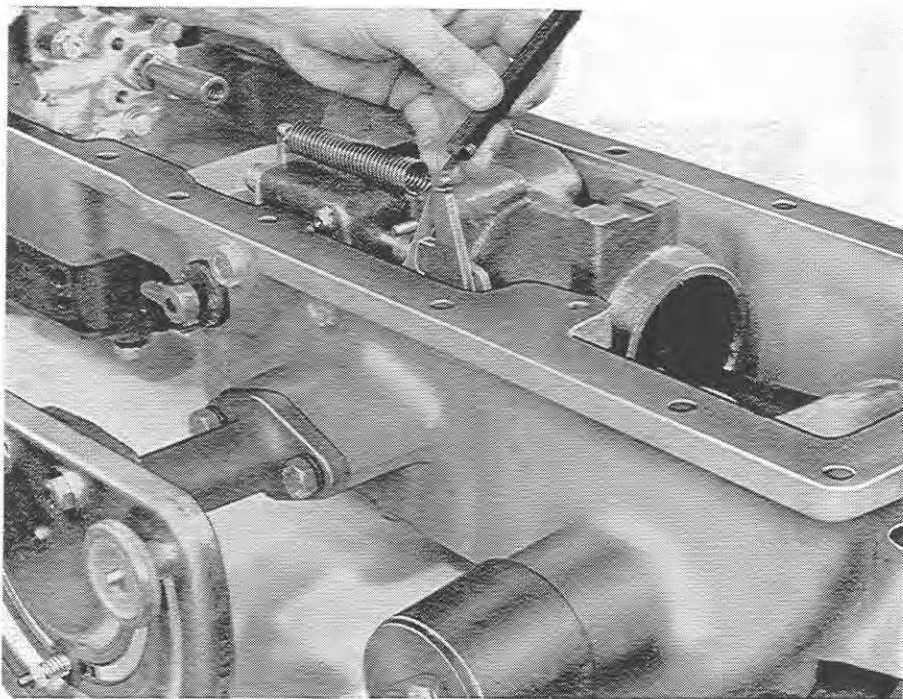

Fig. 20
- 3) Slacken off the lock nut B of the control rod A and lengthen or shorten it to obtain a clearance of 0.002" (5/100) between the depth control lever and the primary valve (Fig. 20).